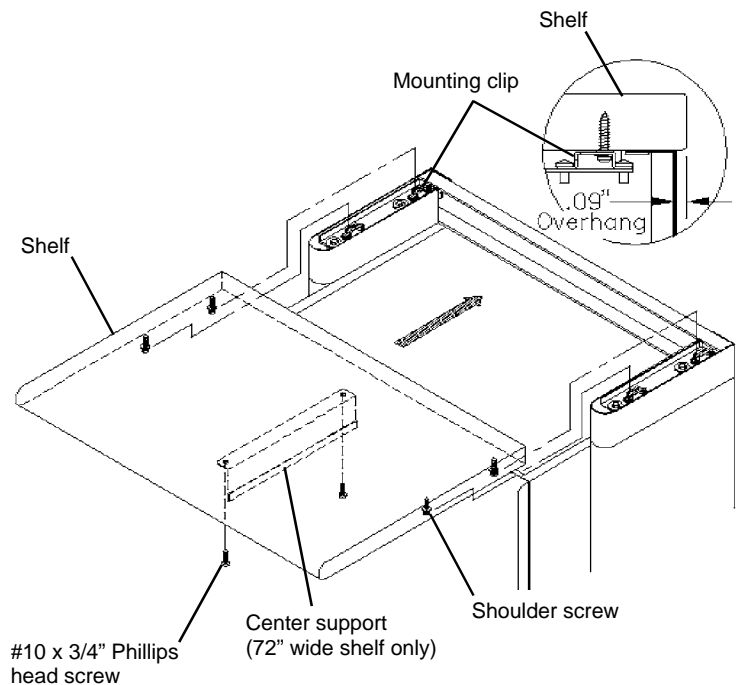

Figure 5
6. If you are installing a 72"(1829mm) wide Shelf, install the **Center Support** to the underside of the Shelf at this time. Use the #10 x 3/4" screws provided. See **Figure 5**.
7. With two people, align the shoulder screws in the bottom of the Shelf with the slots in the mounting clips. See **Figure 5**.